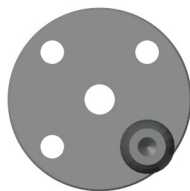

Figure 5.9: Flexion servo motor registration
2. Rotate the plate until the hole with the bolt is at the bottom right (figure 5.9).